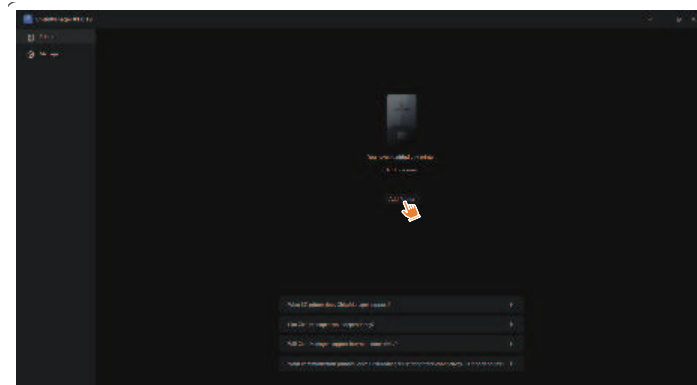

Figure 9: Adding the printer
2. In the Network Management Center, click **Add Printer** to associate the printer (the computer and the printer must be on the same local network). Once associated, the printer can be controlled remotely from the software (see Figure 9).